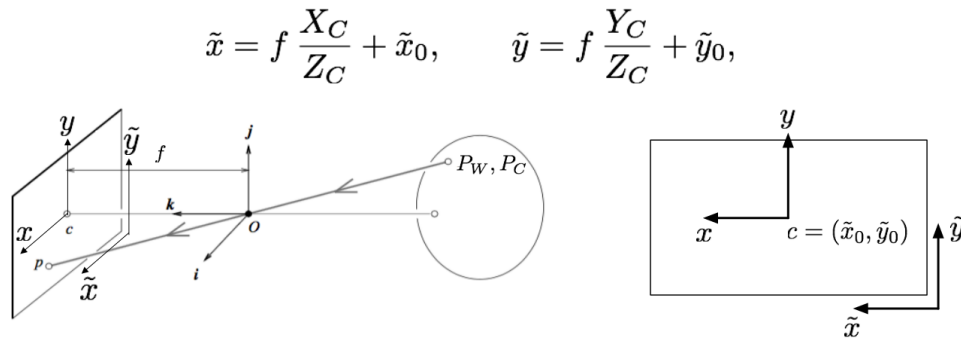

Figure 7: Projecting a point from pixels to camera frame
-  Given the focal lengths and principal points, edit `project_pixel_to_ray` in `detector.py` to compute the ray/direction (as a unit vector) of the stop sign in the camera's frame of reference. You may find Figure 7 helpful (note that in our case u in the code would be \tilde{x} in the diagram, cx in the code would be \tilde{x}_0 in the diagram and that we have different focal lengths for each axes of this camera).